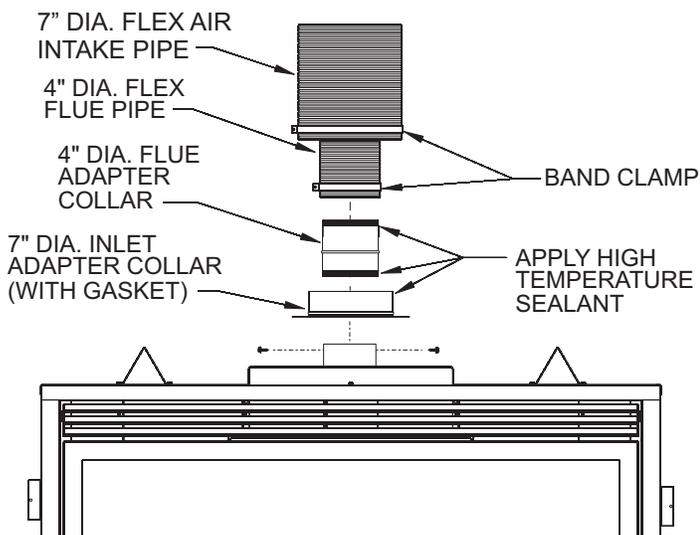

Figure 36
17. To attach the vent connections at the fireplace, be sure the 7" diameter adapter collar has been installed per step 3. Apply a bead of silicone sealant to the 4" diameter flex connector, then slide the flex pipe adapter collar into the fireplace flue collar and secure by installing a minimum of two (2) screws through the flue collar and into the adapter. **See Figure 36.**
18. Apply sealant to the 7" diameter adapter collar, slide outer flex vent over the collar, then secure with a 7" diameter band clamp. **See Figure 36.**